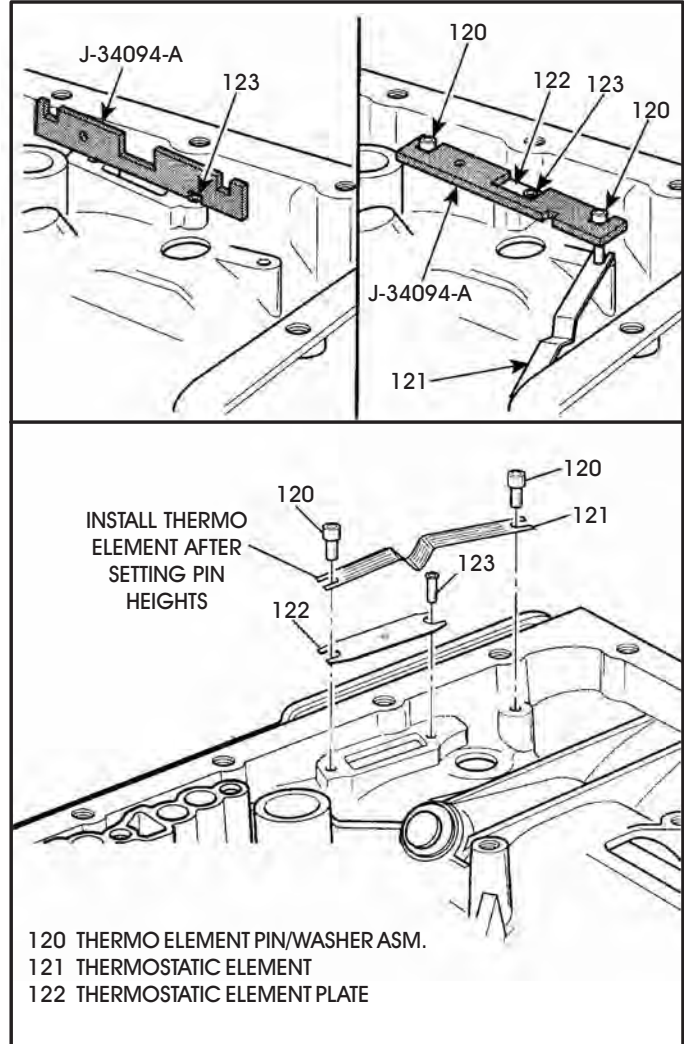

Figure 217
9. Set the thermo element pins using J-34094-A, as shown in Figure 217.
10. Carefully install the thermo element between the two pins, as shown in Figure 217, without bending the element too much.